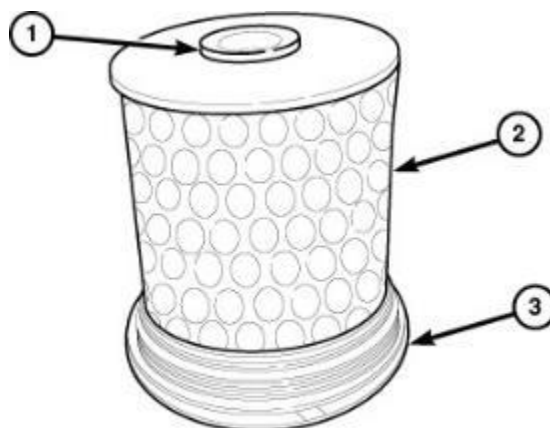

Figure 33 – Filter Seal
69. Position and push down on **NEW** fuel filters (2) to install filter onto the cover (3) (Figure 33).
70. Lubricate the rubber seal (1) with clean diesel fluid (Figure 33).